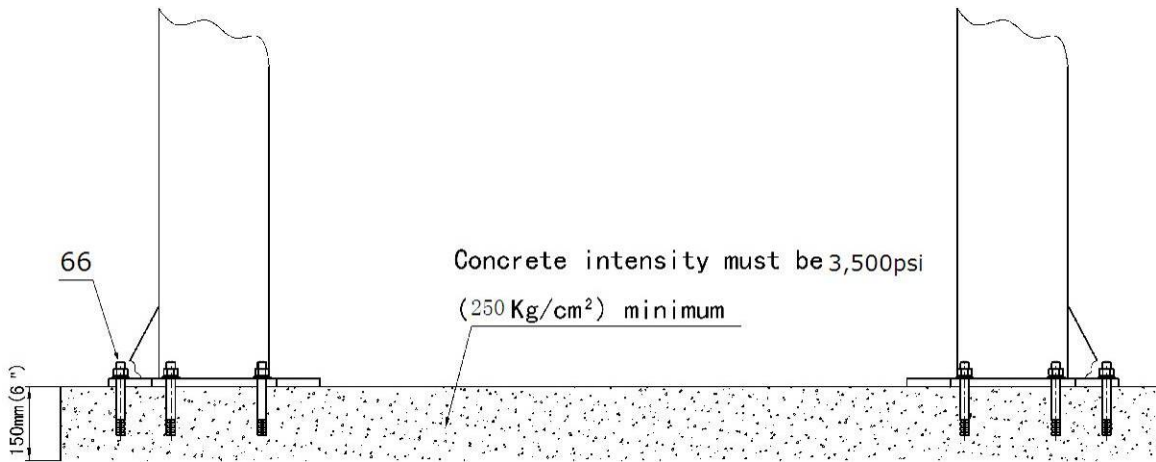

Fig. 6
B. Concrete Specifications(See Fig. 6).